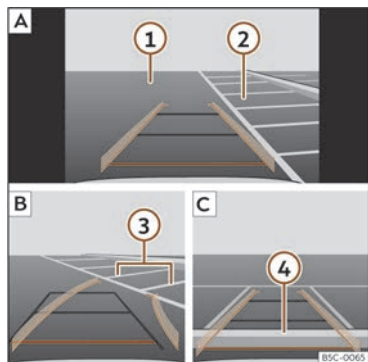

Fig. 154 Display on the infotainment system screen: parking with the reverse assistant.
Key to the >>> **Fig. 154:**
- Stop the vehicle in front of the parking space >>> **Fig. 154 2 A**.